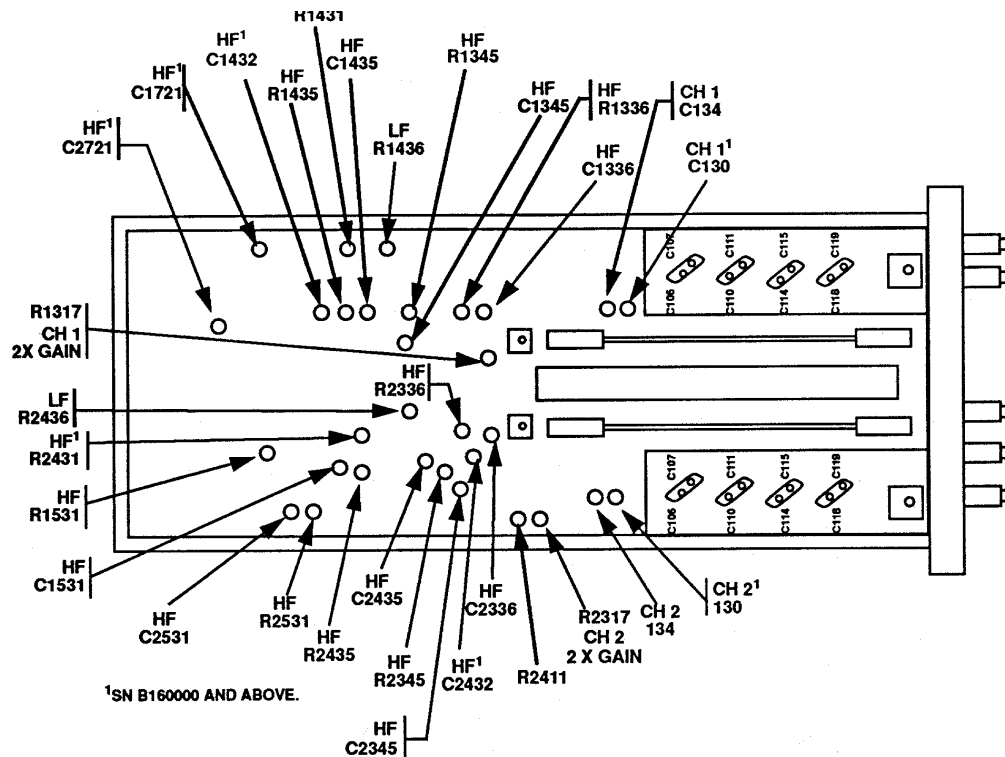

Figure 3. AM-6785/U and Tektronix, Type 7A26 - left side view.
(16) Connect oscilloscope calibrator **CHAN 1** to TI **CH 1** using a 50 $\Omega$  feedthrough termination. Ensure oscilloscope calibrator **CHAN 1** output is selected by using technique in step (1) above.
(17) Set **DISPLAY MODE** switch to **CH 1** and **CH 1 VOLTS/DIV** switch to **10 mV**.
(18) Set oscilloscope calibrator to **EDGE**, and output a 60 mV, 1 kHz output.
(19) Adjust **CH 1 POSITION** and time base controls as necessary to view display.
(20) Rotate oscilloscope calibrator knob located below **EDIT FIELD** pushbutton to obtain 6 divisions on oscilloscope display. If displayed waveform does not have flat tops, perform **b(13)** below (**CH 2, b(14)** below).
(21) Remove 50 $\Omega$  feedthrough termination from oscilloscope calibrator **CHAN 1** and **TI CH 1**. Reconnect oscilloscope calibrator **CHAN 1** to TI **CH 1** using a 5-80 pF standardizer. Rotate oscilloscope calibrator knob located below **EDIT FIELD** pushbutton to obtain 6 divisions of vertical display.
(22) Adjust standardizer for optimum square corner and flat top. If standardizer cannot be adjusted for optimum square wave, adjust **CH 1 C134** (fig. 3) (**CH 1 C130** (fig. 3) for **SN B160000** and above) to midrange and readjust standardizer for optimum square wave.
(1) Ensure oscilloscope calibrator output and TI **VOLTS/DIV** switch setting is set as indicated in first row of table 8.
(2) Adjust **CH 1 GAIN** (front panel) for 4 divisions of amplitude.
(3) Set **CH 1 VOLTS/DIV** switch to **10 mV** and oscilloscope calibrator output for 50 mV.
(4) Adjust R1317 CH 1 2X GAIN (fig. 3) for 5 divisions of amplitude (R).
(5) Ensure oscilloscope calibrator output and TI **VOLTS/DIV** switch setting is set as indicated in first row of table 9.
(6) Adjust **CH 2 GAIN** control (front panel) for 4 divisions of amplitude.
(7) Set **CH 2 AC-GND-DC** switch to **AC**.
(8) Adjust R2411 (fig. 3) polarity gain for minimum gain change while switching **CH 2 POLARITY** switch between **+UP** and **INVERT**.
(9) Set **CH 2 AC-GND-DC** switch to **DC** and repeat (6) through (8) above until no further adjustments are needed.
(10) Set **CH 2 AC-GND-DC** switch **DC** and **VOLTS/DIV** switch to **10 mV**.
(11) Set oscilloscope calibrator output controls for 50 mV at 1 kHz.
(12) Adjust R2317 CH 2 2X GAIN (fig. 3) for **5** divisions of amplitude (R).
(13) Adjust LF R1436 and R1431 (LF R1436 for SN 159999 and below) (fig. 3) for best flat top (minimum tilt) (R).
(14) Adjust LF R2436 and HF R2431 (LF R2436 for SN 159999 and below) (fig. 3) for best flat top (minimum tilt) (R).
(1) Adjust HF C1336, HF R1336, HF C1432, HF C1435, HF R1435, HF C1531, HF R1531, HF C1345, and HF R1345 (fig. 3) for optimum front corner and flat top (R).
(2) Adjust HF C2336, HF R2336, HF C2432, HF C2435, HF R2435, HF C2531, HF R2531, HF C2345, and HF R2345 (fig. 3) for optimum front corner and flat top (R).